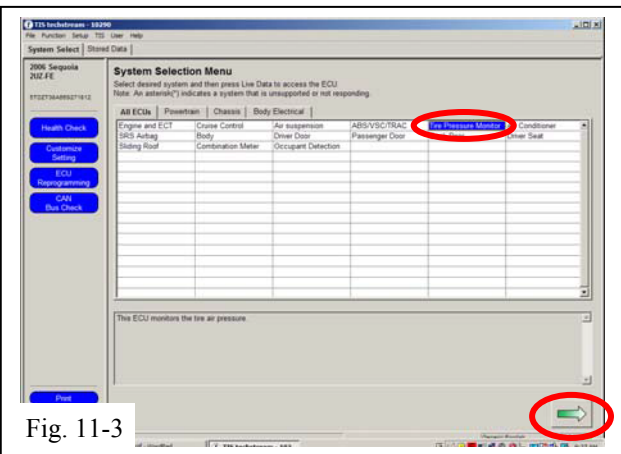

Fig. 11-3
- Select “Tire Pressure Monitor” Then click the green arrow located on the bottom right. (Fig. 11-3)